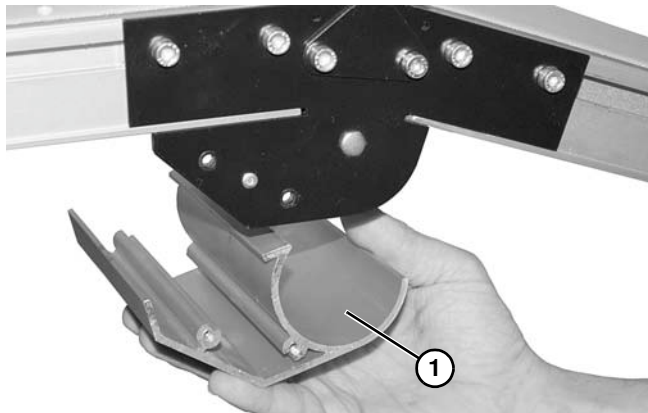

Figure 133
2. Remove guard (**Figure 133, item 1**).